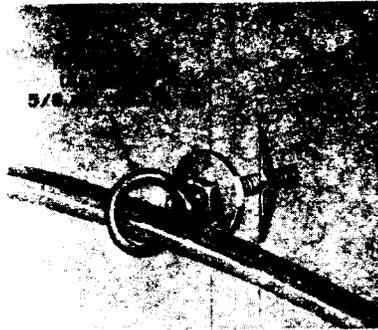

Fig. 9—Toggle Bridle Ring
D. Toggle Bridle Ring (Fig. 9)
Note: For best results and a secure installation, clearance holes should be restricted to 3/4-inch diameter, and a washer used where required (Fig. 9).